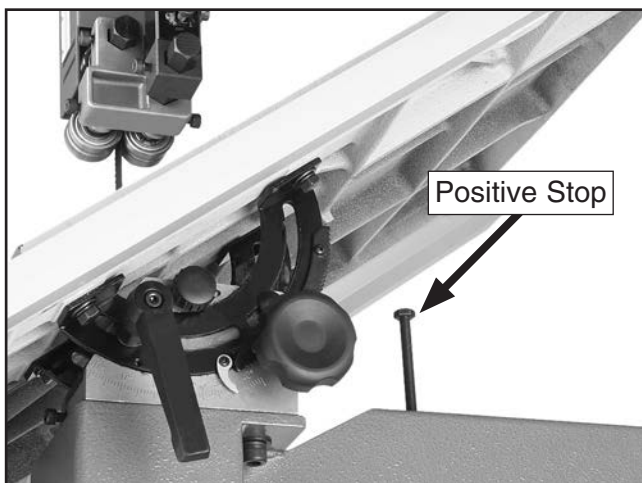

Figure 22. Positive stop bolt installed.
3. Thread the positive stop bolt into the threaded hole on bandsaw body (see **Figure 22**).